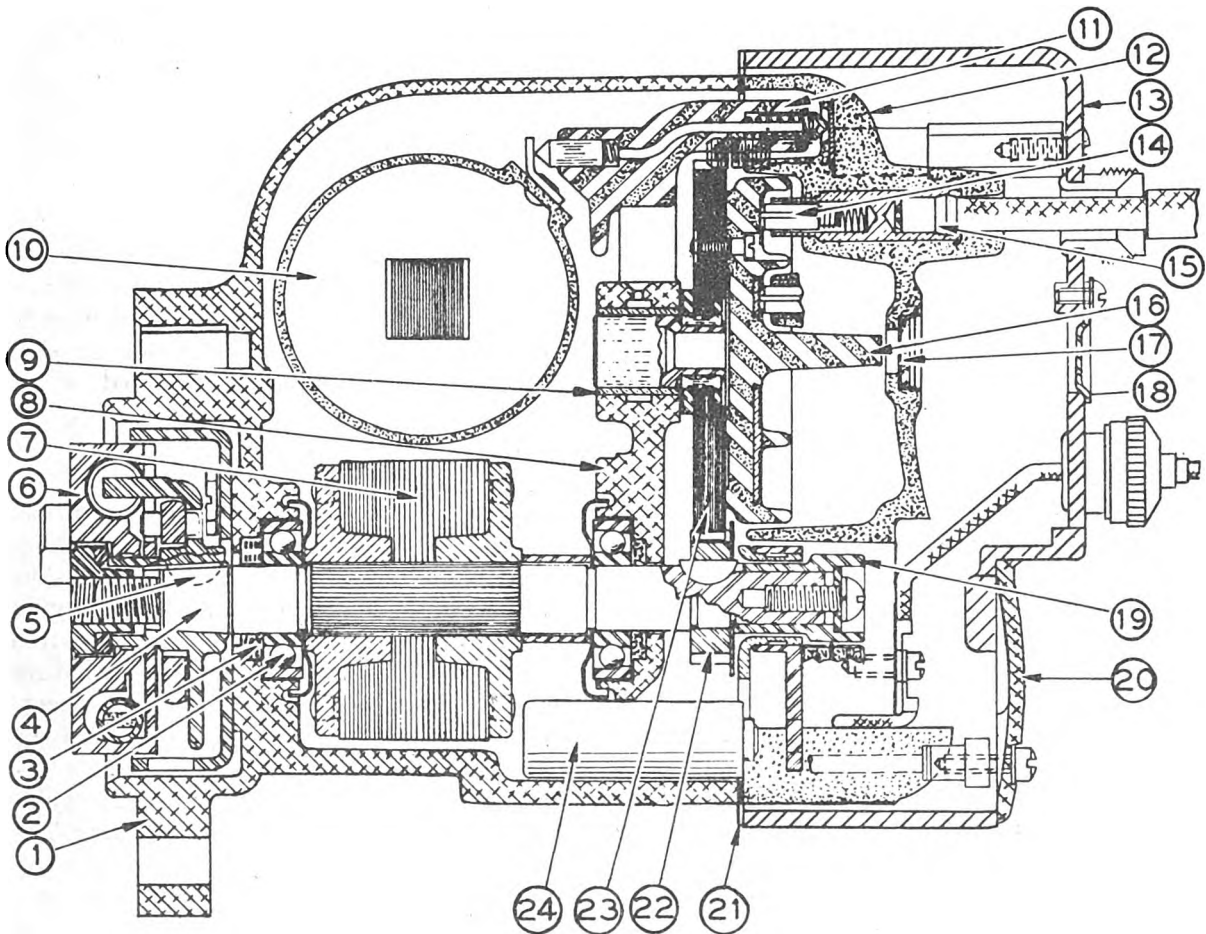

Fig. 4. Longitudinal Section through Magneto
The Bosch magneto (see Figs. 4 and 5) employs the induction principle of current generation. The coil windings ⑩ are stationary and the magnets ⑦ are rotated between laminated pole shoes ⑫. The condenser ⑭ and interrupter ⑮ are also stationary. Brush ⑯ and the rotating track combinations are confined solely to the high-tension distributor ⑰. Screened ventilators on either side of the housing ① and the fan action of the magnet rotor ⑦ insure constant change of air throughout the interior of the magneto. A single casting ①, the open end of which is covered by the distributor